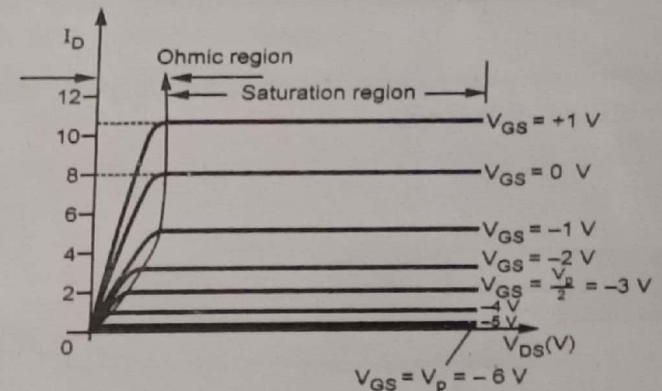

Fig. Q.46.2 Drain characteristics for an n-channel depletion type MOSFET
- Fig. Q.46.2 shows drain and transfer characteristics of n - channel depletion type MOSFET.